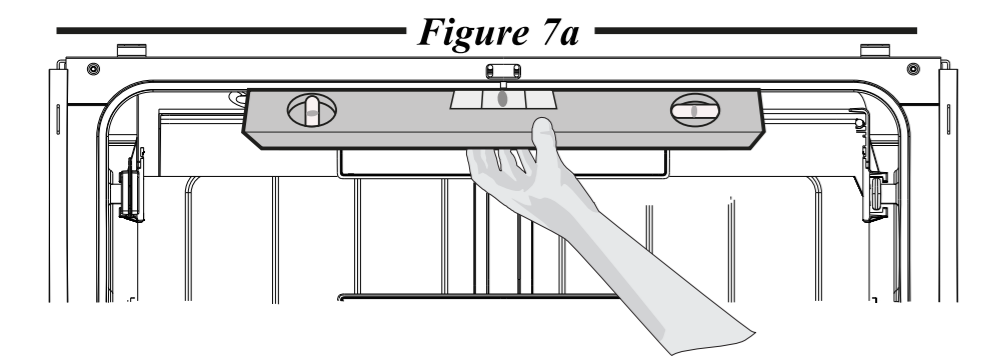

Figure 7a
- Check that dishwasher is level from side to side by placing a level against the top front section of the tub. See Figure 7a.